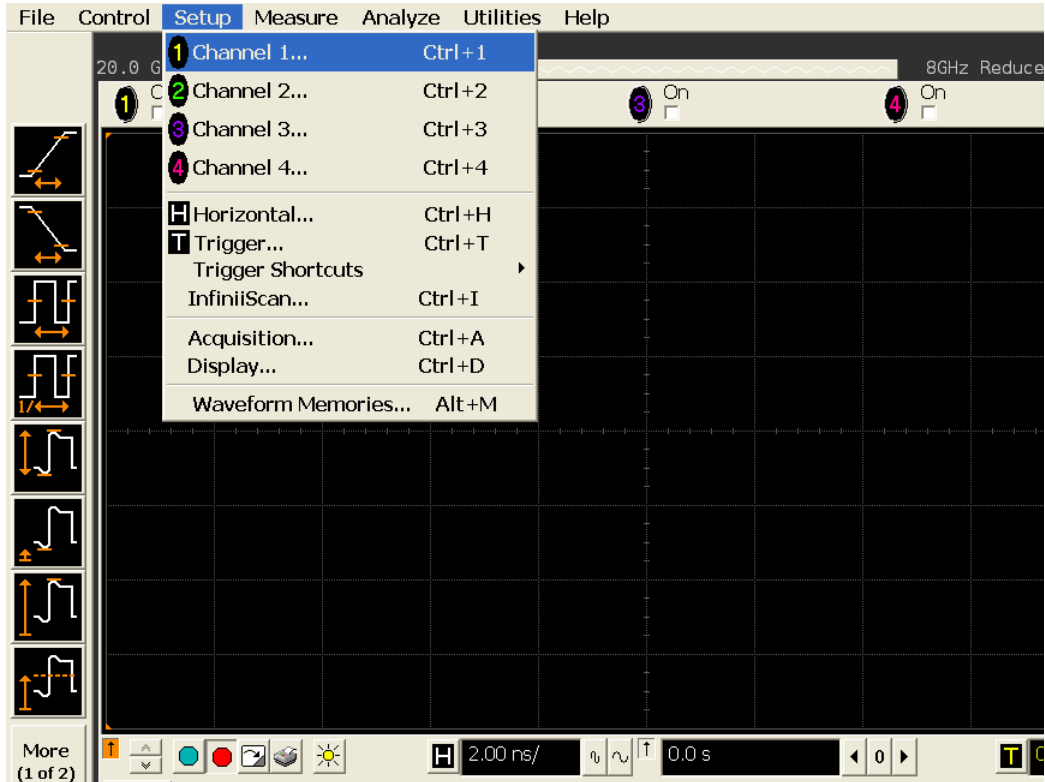

Figure 31 Channel Setup Window.
- 1 On the Infiniium oscilloscope in the Setup menu, select the channel connected to the probe, as shown in Figure 31.